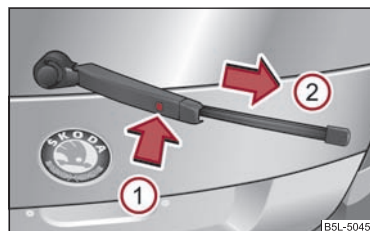

Fig. 52 Wiper blade for rear window
- Fold windscreen wiper arm out from the windscreen and position the wiper blade at right angles to the wiper arm ⇒ fig. 52.
- With the other hand unlock the locking button ① and remove the wiper blade in the direction of arrow ②.